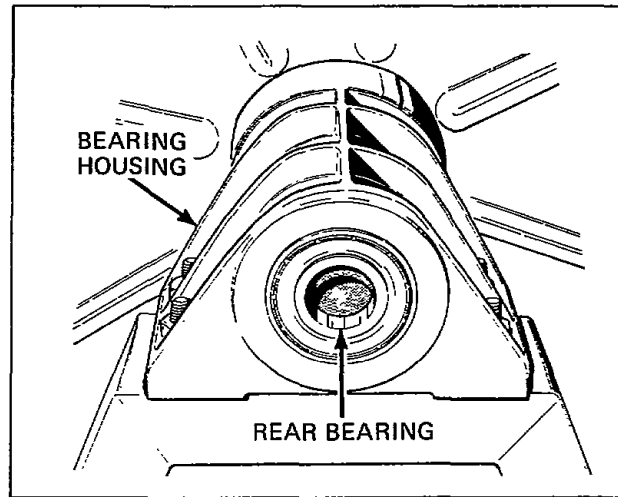

Figure 44
- c. Drive front bearing and both water seals out front of bearing housing using hammer and hardwood dowel. When replacing bearings, always install new water seals as per *paragraph 40*. Apply a retaining compound such as Loctite® to outside diameter of bearings, and install bearings with sealed side facing out, *Figure 44*.